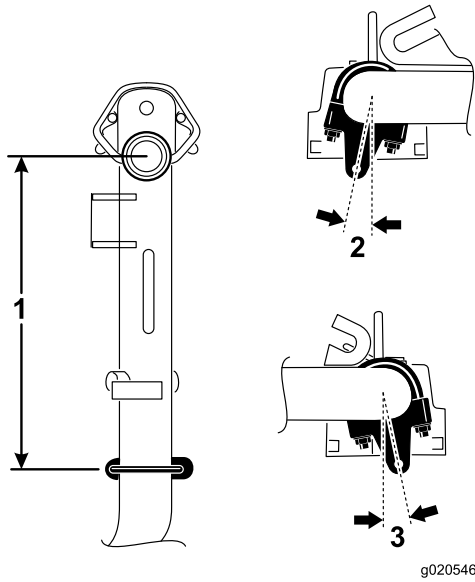

Figure 4
1. On lift arms #1, #4 and #5, position the chain brackets and U-bolts 38.1 cm (15 inches) behind the center line of the pivot knuckle (Figure 4).
2. On lift arms #1 and #5 the brackets should be rotated to the right 10 degrees from vertical (Figure 4).
- On lift arm #4 the bracket should be rotated to the left 10 degrees from vertical (Figure 4).